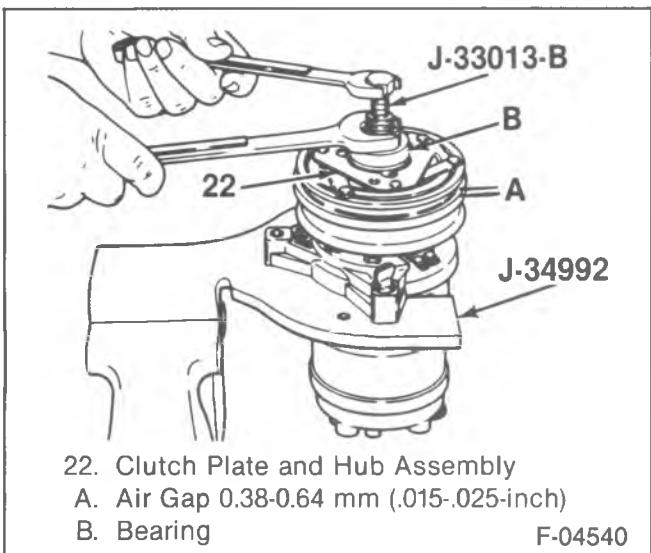

Figure 8—Installing the Clutch Plate and Hub Assembly
- Do not drive or pound on the clutch hub or the shaft (38). Internal damage to the compressor may result.
2. Clutch plate and hub assembly (22) (figure 8).
- Make sure the contact surfaces of the clutch plate (22) and the pulley (26) are clean.
- Install J-33013-B with bearing (B) (figure 8).
- Back off J-33013-B body enough to allow the center screw to be threaded against the end of the compressor shaft (38).
- Hold the center screw with a wrench and tighten the hex portion of J-33013-B body while pressing the hub onto the shaft (38). After tightening the body several turns, remove J-33013-B and check that the shaft key (21) is